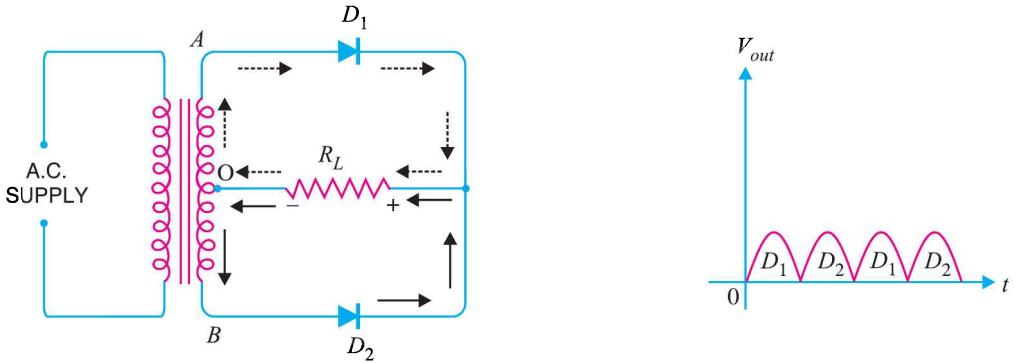

Fig. 6.24
The circuit employs two diodes D_1 and D_2 as shown in Fig. 6.24. A centre tapped secondary winding AB is used with two diodes connected so that each uses one half-cycle of input a.c. voltage. In other words, diode D_1 utilises the a.c. voltage appearing across the upper half (OA) of secondary winding for rectification while diode D_2 uses the lower half winding OB .
Operation. During the positive half-cycle of secondary voltage, the end A of the secondary winding becomes positive and end B negative. This makes the diode D_1 forward biased and diode D_2 reverse biased. Therefore, diode D_1 conducts while diode D_2 does not. The conventional current flow is through diode D_1 , load resistor R_L and the upper half of secondary winding as shown by the dotted arrows. During the negative half-cycle, end A of the secondary winding becomes negative and end B positive. Therefore, diode D_2 conducts while diode D_1 does not. The conventional current flow is through diode D_2 , load R_L and lower half winding as shown by solid arrows. Referring to Fig. 6.24, it may be seen that current in the load R_L is in the same direction for both half-cycles of input a.c. voltage. Therefore, d.c. is obtained across the load R_L . Also, the polarities of the d.c. output across the load should be noted.